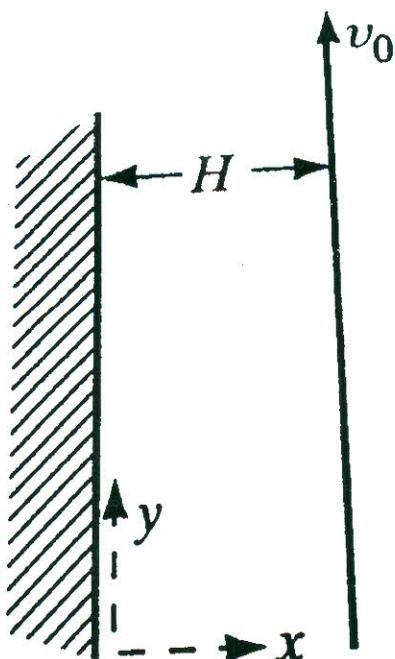

Figure 5 - Flow between vertical parallel plates
3. [a] A Newtonian fluid is confined between two parallel and vertical plates as shown in Figure 5. The surface on the left is stationary and the other is moving vertically at a constant velocity  $v_0$ . Assuming that the flow is laminar, solve for the velocity profile.